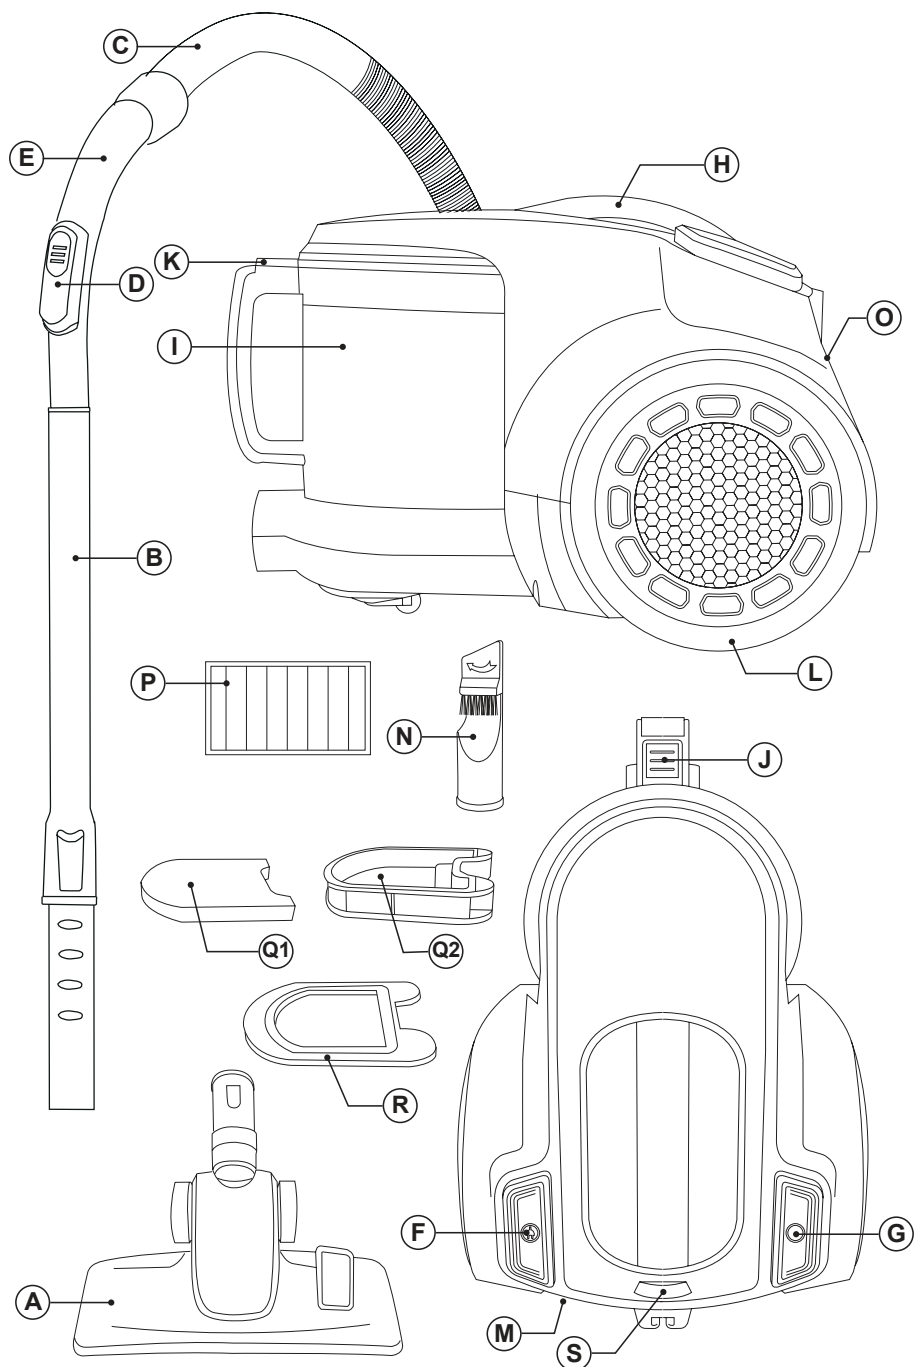

Fig.1
- ◆ Fit the hose unit to the vacuum cleaners air intake and fix the hose turned to right side (Fig.1).